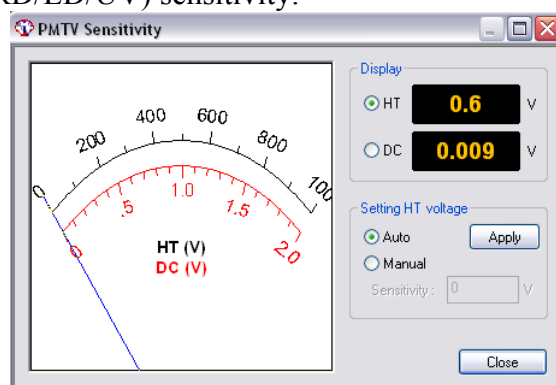

Figure 5.10 [PMTV Sensitivity] dialog box
- [Display] Changes the meter indication (displayed on the right side of Figure. 5.10) at the right to [HT] or [DC] with an option button.
**Note (1):** Closing the shutters zeroes the HT voltage. Confirm this in the [CD Detector...] dialog box (Figure. 5.10) if necessary.
**Note (2):** When the spectrometer is turned ON, the shutter automatically opens. Check the front LED to see if the shutter is ON/OFF in this case.